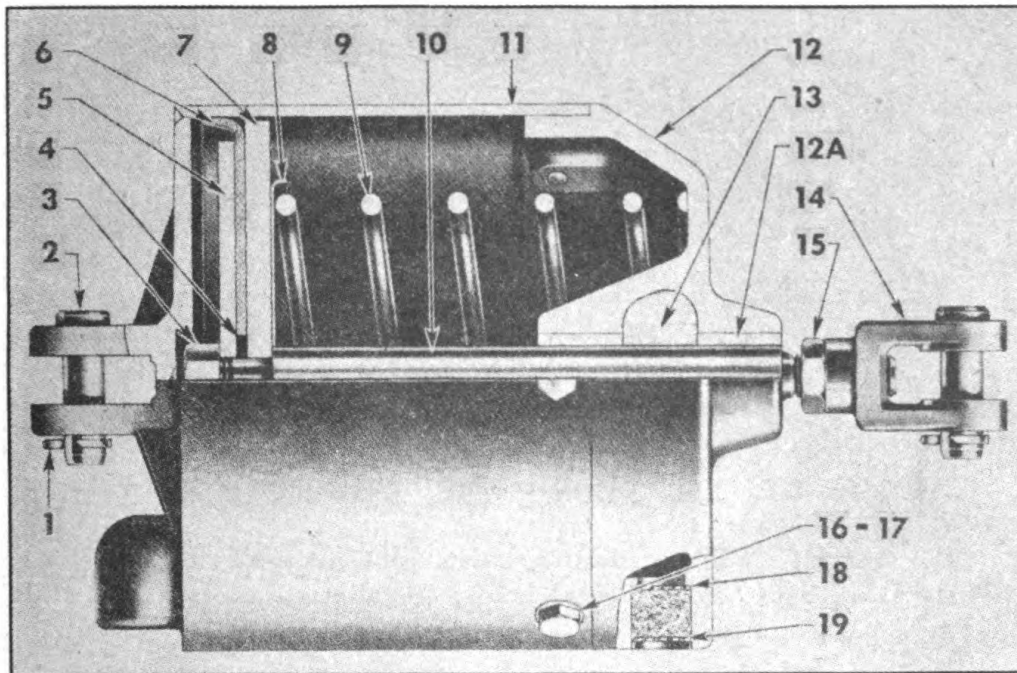
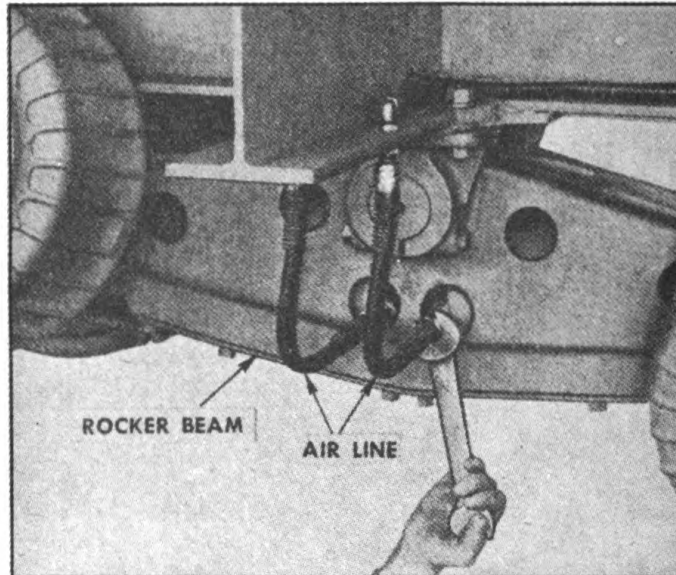
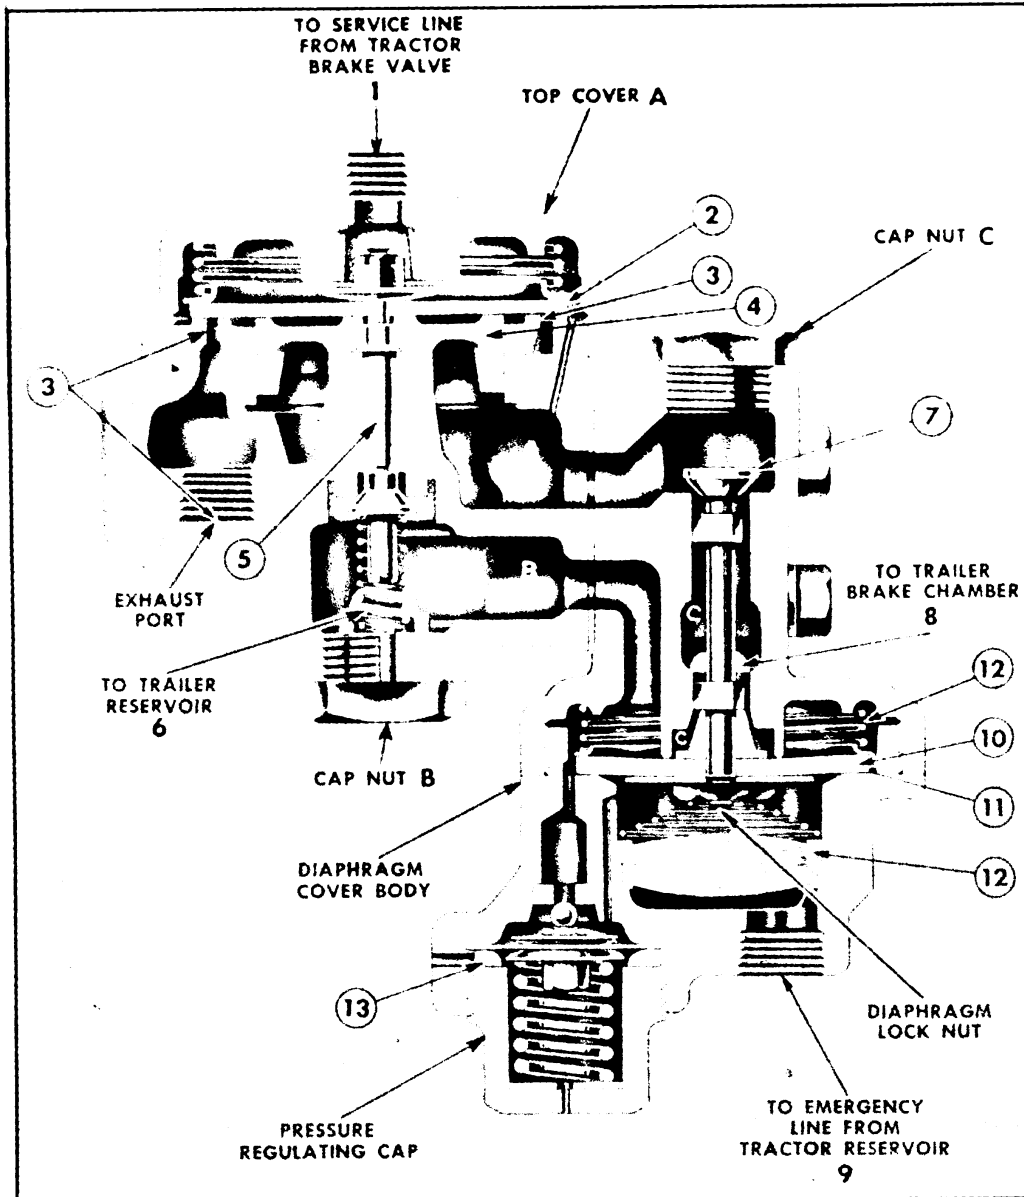

FIGURE 31. BRAKE CYLINDER—SECTIONAL VIEW
FIGURE 32. REMOVING BRAKE LINES AT WALKING BEAM
FIGURE 36. RELAY EMERGENCY VALVE.
13. BRAKE CYLINDERS (Figure 31).—*a. Function.* The function of the brake cylinder is to convert the energy of compressed air into the mechanical force necessary to expand the brake shoes against the brake drum and apply the brakes. Air pressure from the relay-emergency valve enters port behind piston (5), air held in check by packing cup (6) moves the piston-cup assembly, and push rod (10) forward so as to rotate brake lever and apply the brakes.
b. Removal.—(1) Rear brakes are operated by four brake cylinders which are mounted on two plates. The plates are installed in rocker beams.
- (2) Disconnect the two air lines which run to cylinders (Figure 32)
- (3) Disconnect the brake rods at front and rear end of walking beam.
- (4) Disconnect the two parking brake rods.
(2) Remove piston rod nut, piston follower, spacer, packing cap and piston.
(3) Piston rod may then be removed from cylinder head, if necessary.
f. Lubrication (Figure 31).—(1) **CAUTION:** (*a*) Whenever disassembled, cylinder parts should be thoroughly cleaned and lubricated before reassembly.
(2) Packing cup and cylinder walls should be lubricated with a good grade of light lime base grease.
(3) The felt oiler in the cylinder head (12) should be removed and the cavity around it filled with a good grade of light cup grease.
g. Reassembly.—(1) Reassembly of cylinder is in reverse of disassembly procedure.
h. Maintenance (Figure 31).—(1) Brake cylinder requires very little attention unless subject to extreme temperatures and difficult operating conditions.
(2) The air strainer (19) should be kept clean by periodically removing the hair and washing in cleaning fluid.
(3) Once each year the cylinder should be removed from trailer and completely disassembled. All parts should be cleaned and a new packing cup installed (6), if necessary. (See paragraph *f.*, Lubrication, this section.)
14. RELAY-EMERGENCY VALVE (Figure 36).—*a. General.*—
(1) This trailer is equipped with two relay valves which are located at rear of trailer, ahead of rear underconstruction. They are bolted to longitudinal members.
(2) These relay-emergency valves are identical in construction and are interchangeable.
b. Function (Figure 36).—(1) The relay-emergency valve serves as a relay station to speed up the application or release of the trailer brakes and also provides a means of automatically applying the trailer brakes in case the trailer breaks away from the tractor.
(2) Fundamentally, its function is to operate so as to deliver and maintain the same air pressure in the trailer brake chambers as the brake valve on the tractor delivers to it.
c. Operation (Figure 36).—(1) The operation of the relay-emergency valve is dependent upon the air pressure delivered to it by the brake valve on the tractor.
(2) This brake valve pressure is delivered to the relay-emergency valve through the service line and enters the cavity above the rubber diaphragm through port (1). Because this cavity is small and, there-
(5) *Disassembly:* Diaphragms (2) and (10) should be replaced once a year.
(a) To clean or replace diaphragm (2) (Figure 36):
(b) Cleaning or replacing intake valve (5) (Figure 36):
- (c) Cleaning or replacing diaphragm (13) (Figure 36):
(d) **Cleaning or replacing diaphragm (10). Washing strainer (12) (Figure 36).**
3. **Remove cap nut (C) (Figure 36). Insert screwdriver into slotted top of valve and remove diaphragm lock nut (Figure 43). Pull out the valve stem and diaphragm (Figure 44).**
(6) **Maintenance (Figure 36).—(a) The complete valve should be removed from the trailer, dismantled, thoroughly cleaned, and diaphragms (2) and (10) should be replaced at least once a year.**
(7) **Leakage tests (Figure 36): (a) With brakes released, cover exhaust port with soap suds. Leakage is caused by supply valve (5) not seating properly.**
(8) **Emergency feature tests (Figure 36): (a) With full pressure in the trailer reservoir, disconnect emergency line between tractor and trailer. Trailer brakes should apply automatically. This feature should be checked daily.**